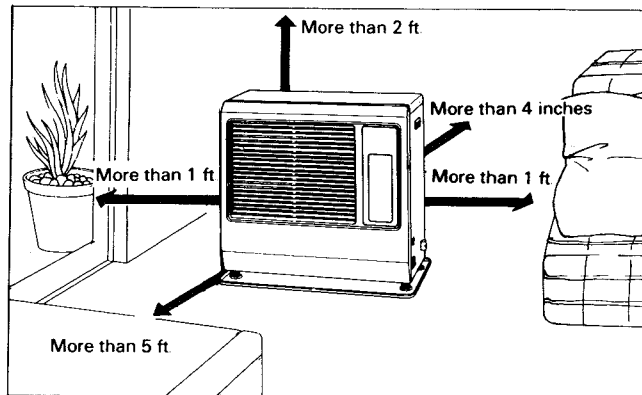

Fig 1
1. Select heater location. Allow clearances as indicated below between heater and all other materials. (See Fig. 1)